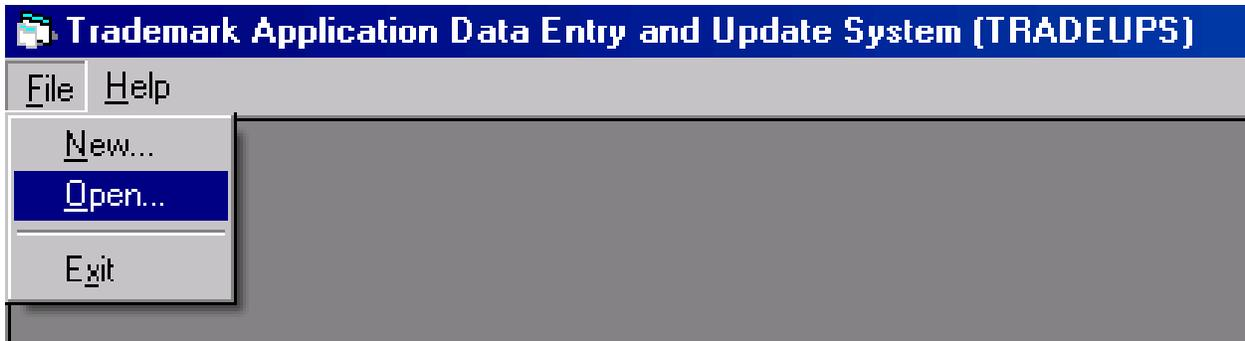

Figure 1-23: The main TRADEUPS screen
Step 3: Click the “OK” button to open the main TRADEUPS screen (Figure 1-23).
Step 5: Select “Open” from the menu (Figure 1-23).